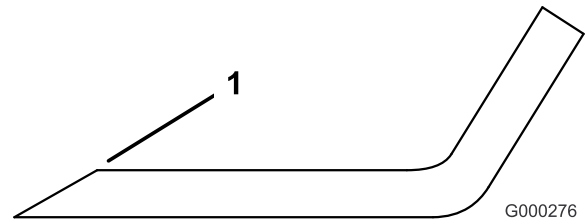

Figure 83
- Examine the cutting edges of all of the blades. Sharpen the cutting edges if they are dull or nicked. Sharpen only the top of the cutting edge and maintain the original cutting angle to make sure of sharpness (Figure 83). The blade will remain balanced if the same amount of metal is removed from both cutting edges.